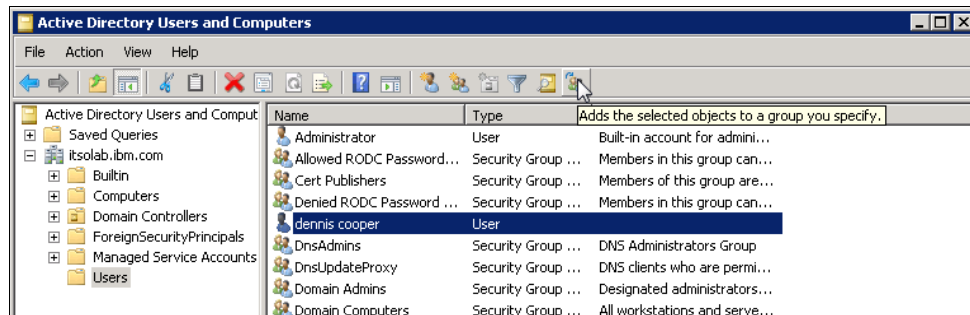

Figure 9-38 Adds the selected objects to a group you specify
4. Highlight the users that you want to add to the IBM FlashSystem V9000 storage administrator group and click the **Adds the selected objects to a group you specify** icon (Figure 9-38).